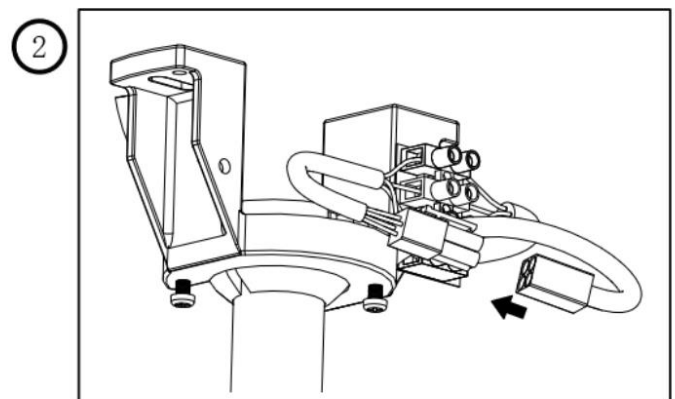
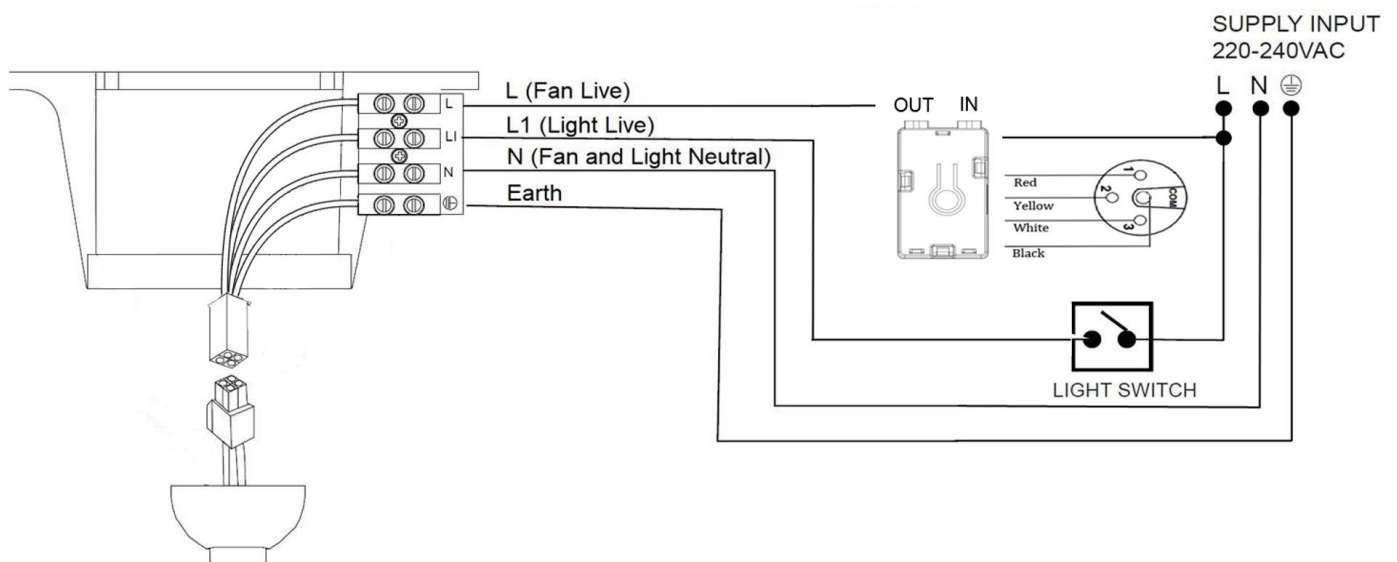

Fig. 5.2
Fig. 6
2. Connect the wiring (Fig.5.2 & **Refer to the wiring diagram in Fig.6 for more information**)
WIRING DIAGRAM (FIG. 6)